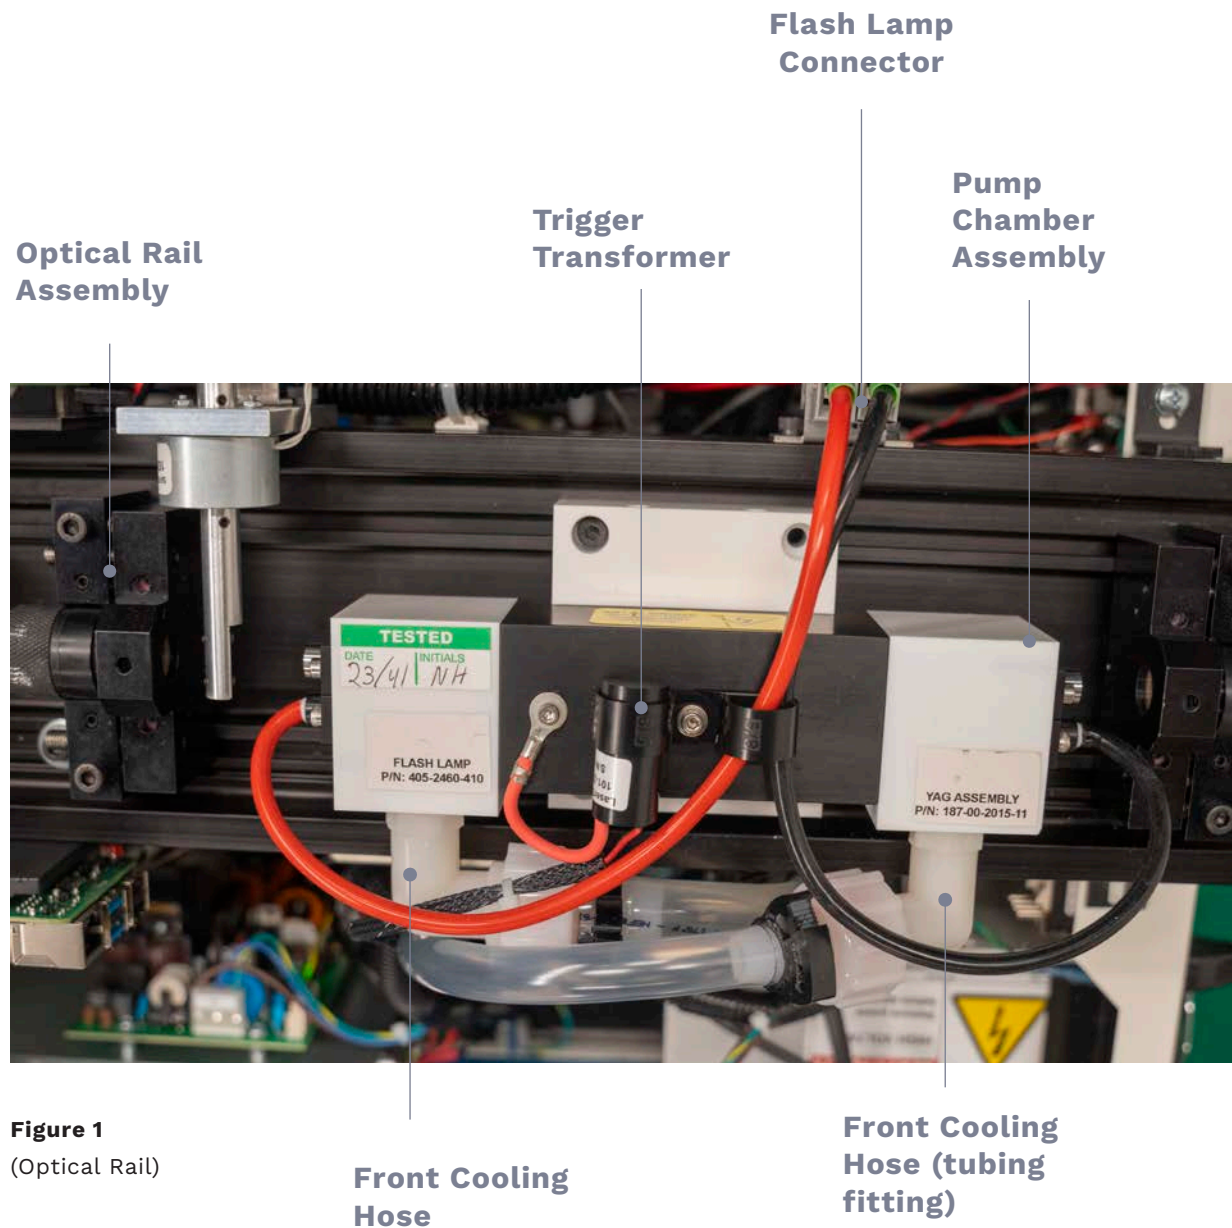

Figure 1
2. Wait thirty (30) minutes. (This allows the flashlamp power supply to fully discharge.)
3. Remove machine rear cover by removing the screws located on the rear of the cover as shown in (Figure 1). Carefully slide the cover back and remove the ground wire/green with a yellow stripe.